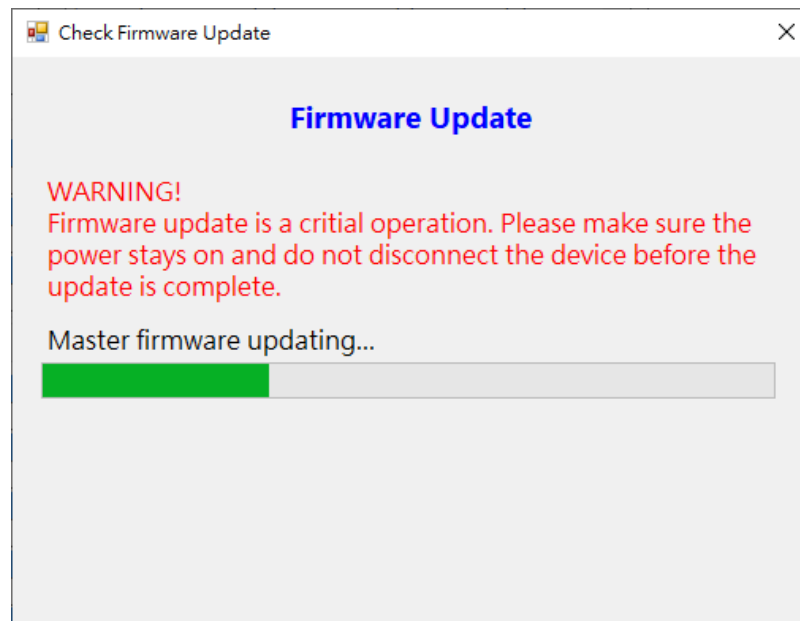

Figure 6-6
- 6 S100 Viewer will download the new firmware from Polaris' server and load it to S100, with the message box indicating software update status shown in Figure 6-6.